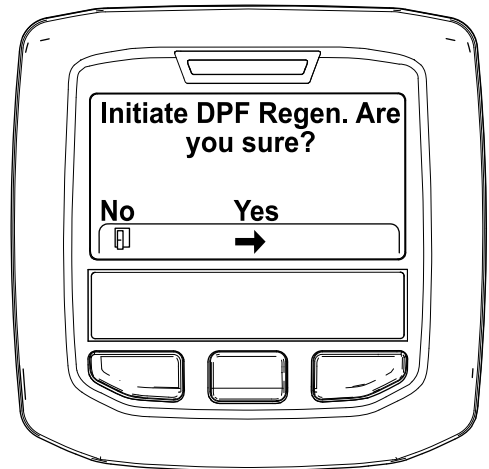

Figure 49
4. When the "Initiate DPF Regen. Are you sure?" message displays, press the center button (Figure 49).